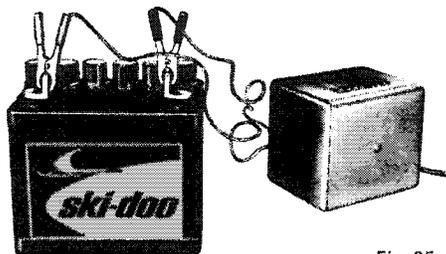

Fig. 25
4. Fully charge battery. (See Fig. 25).